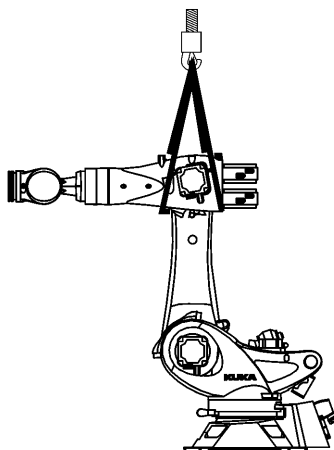

Fig. 11-20: Securing the link arm
8. Secure link arm using a rope sling and crane (>>> Fig. 11-20).